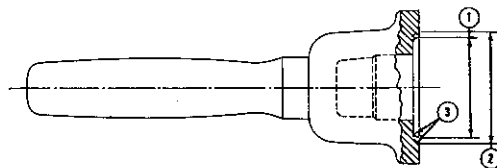

FIG. 277—TOOL W-147 MODIFICATION
**NOTE:** To drive the latest type pinion shaft oil seal, the diameter of the recess on the driving end of Tool W-147 must be 2.031" [51,59 mm.]. Early production W-147 tools had a recess diameter of 1.975" [50,15 mm.]. If necessary, increase the diameter of the tool as shown in Fig. 277 so that it can be used to drive either type seal without damaging the seal.